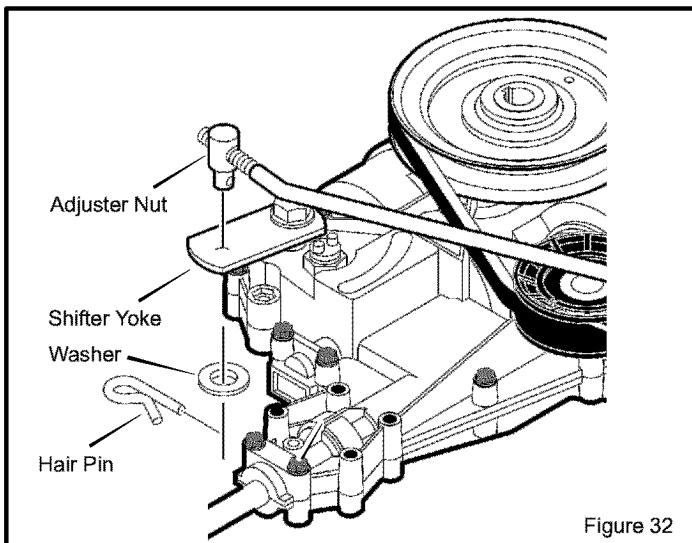

Figure 32
4. Remove the **hair pin** and **washer** from the **adjustable nut** (see Figure 32). Remove the **adjustable nut** from the **shift yoke**.